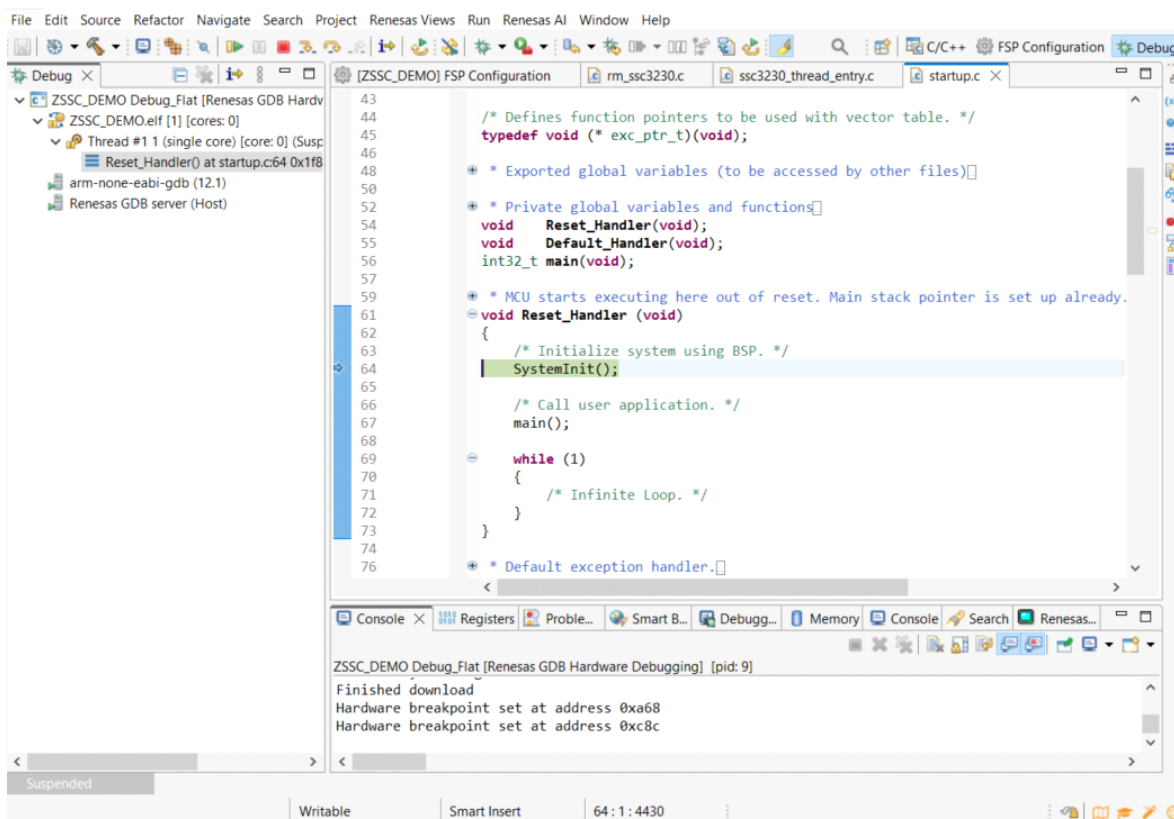

Figure 17. Debug Mode
4. The code enters Debug mode (see Figure 17).